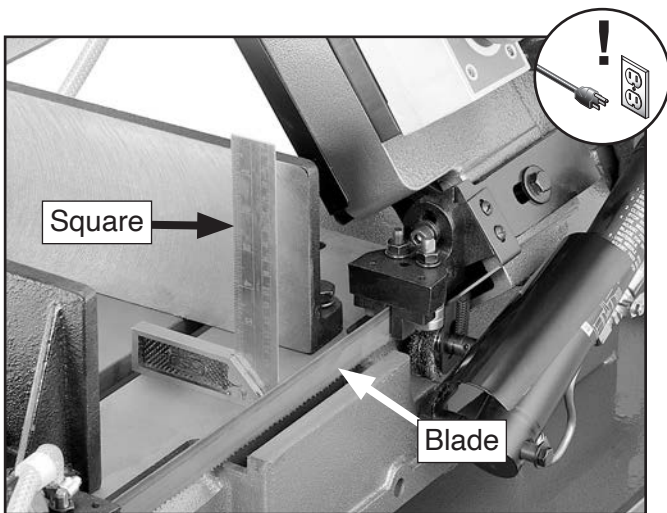

Figure 74. Example of square placed on table bed against edge of blade.
3. Place square on table bed and against edge of blade (see **Figure 74**), and check different points along length of table between blade guides.